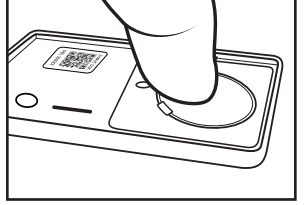

FIGURE 5
- When installing a new battery, ensure proper polarity — plus side up. Insert the lower end first so the battery is under the side ribs (see Figure 5). Press down on the upper end to secure the battery in place.